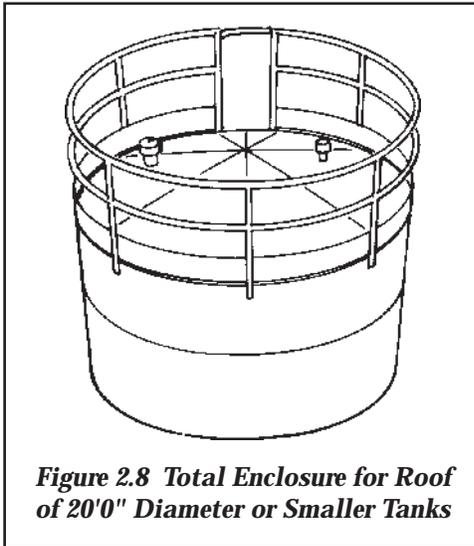

Figure 2.8 Total Enclosure for Roof of 20'0" Diameter or Smaller Tanks
1. Tanks with diameters of 20 feet or less should have a guardrail and toeboard around the entire roof if access to the roof is required. (Not required when railed walkways and platforms are provided).* See *Figure 2.8*.